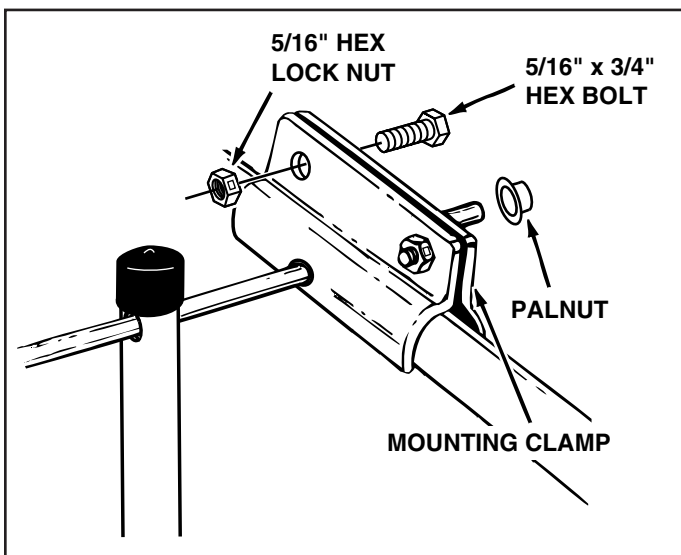

FIGURE 19
14. Assemble the two remaining hopper mount clamps onto the pivot rod on the outside of the bag. Fasten them to the inside clamps using four 5/16" x 3/4" hex bolts and 5/16" hex lock nuts. Tighten securely. See figure 19.
15. Assemble two palnuts by lightly tapping them onto the ends of the pivot rod with a hammer. See figure 19.